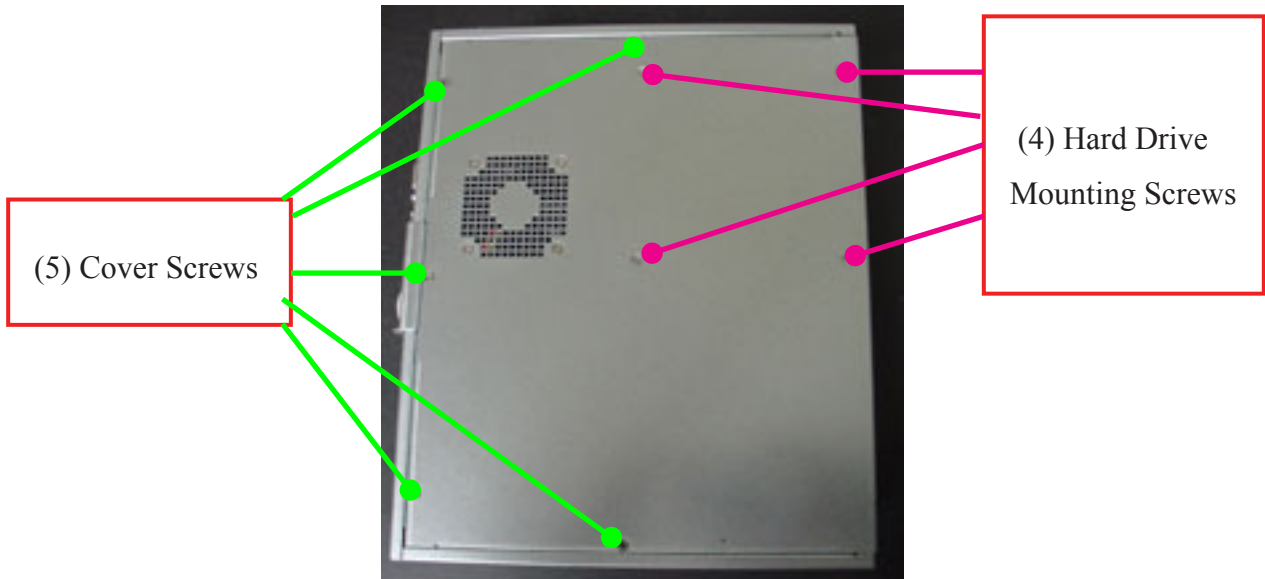

Figure 5. Top cover of the Controller PC
2. Refer to Figure 5. Remove the five (5) perimeter screws (retain these screws).
6. Refer to Figures 5 and 7. Hold the Hard Drive in one hand while removing the four (4) mounting screws (retain these screws). Remove the Hard Drive with the two (2) mounting brackets from the cover.
2. Refer to Figures 5 and 7. Using the four (4) Hard Drive mounting bracket cover screws, attach the Hard Drive to the cover of the Controller PC..
5. Refer to Figures 5. Using the five (5) perimeter cover screws, secure the cover to the Controller PC.